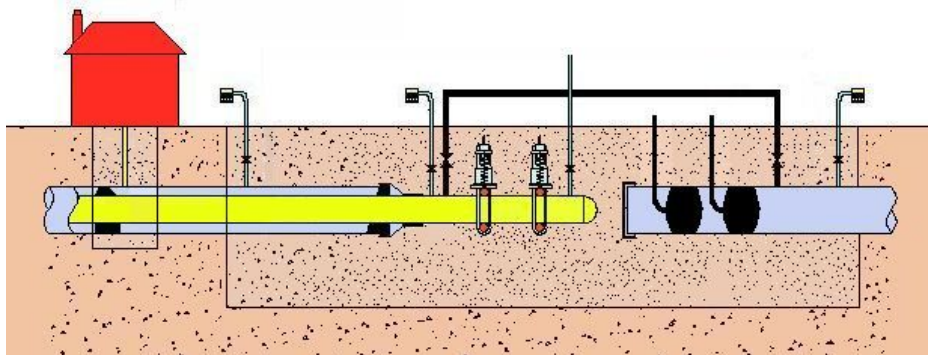

Figure 23- Launch Excavation - Commissioning PE pipe
2. Following the procedures in Section E0 or for specialist equipment SGN/PM/MSL/1 Part 2, commence the connection at the launch excavation see Figure 23.